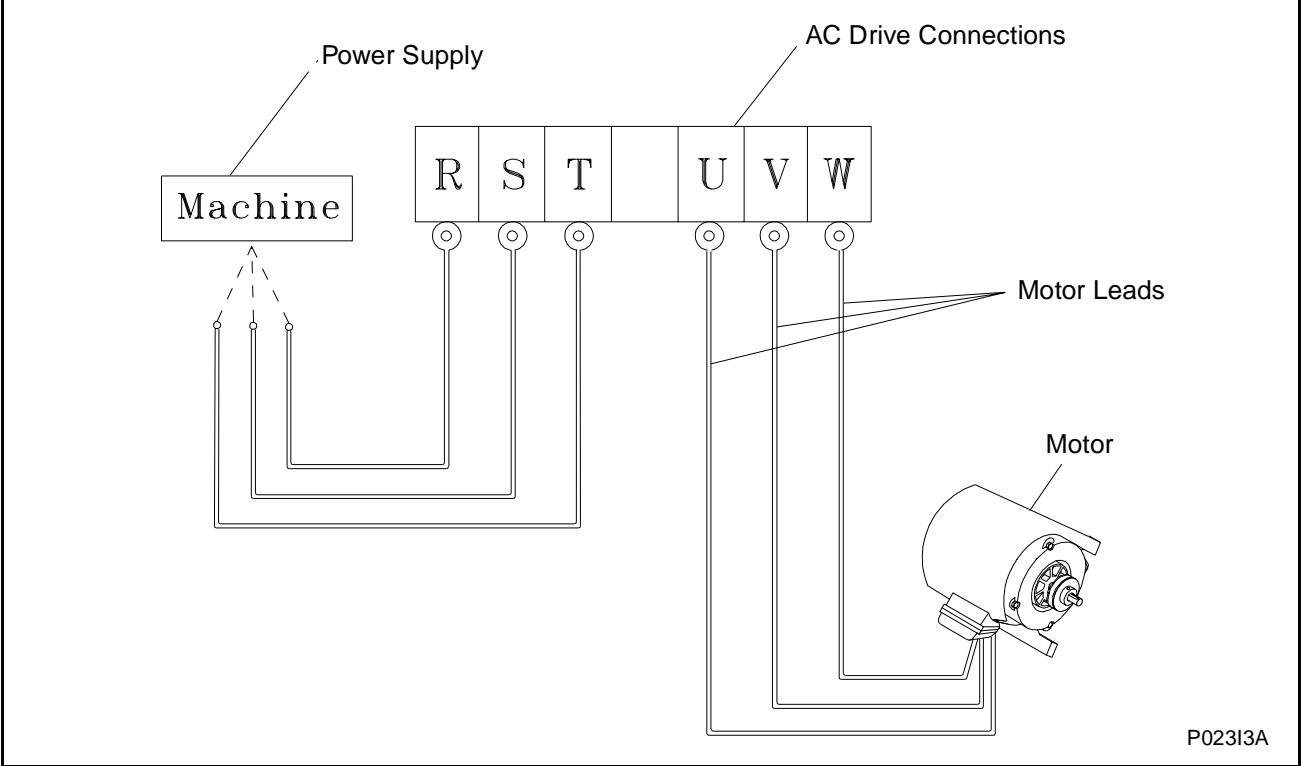

Figure 16
8. Cylinder rotation must be clockwise in the extract step. If rotation is not clockwise in the extract step, disconnect power. A qualified electrician must reverse any two leads between the AC drive and the motor. See Figure 16.